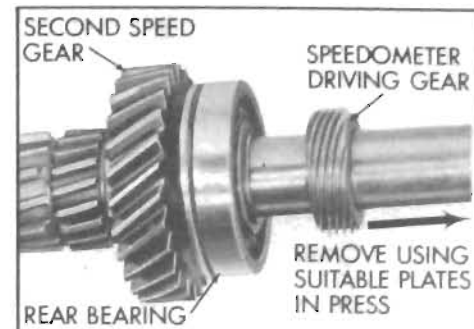

Figure 4-20—Removing Speedometer Driving Gear
1. Remove speedometer drive gear using suitable plates in press. See Figure 4-20.